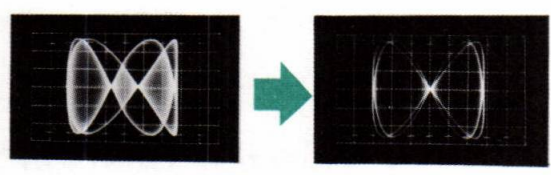

Fig. 3-7. Lissajous pattern
- Turn the pilot-signal (19 kHz) phase control to obtain an in-phase and stable lissajous pattern as shown in Fig. 3-7.